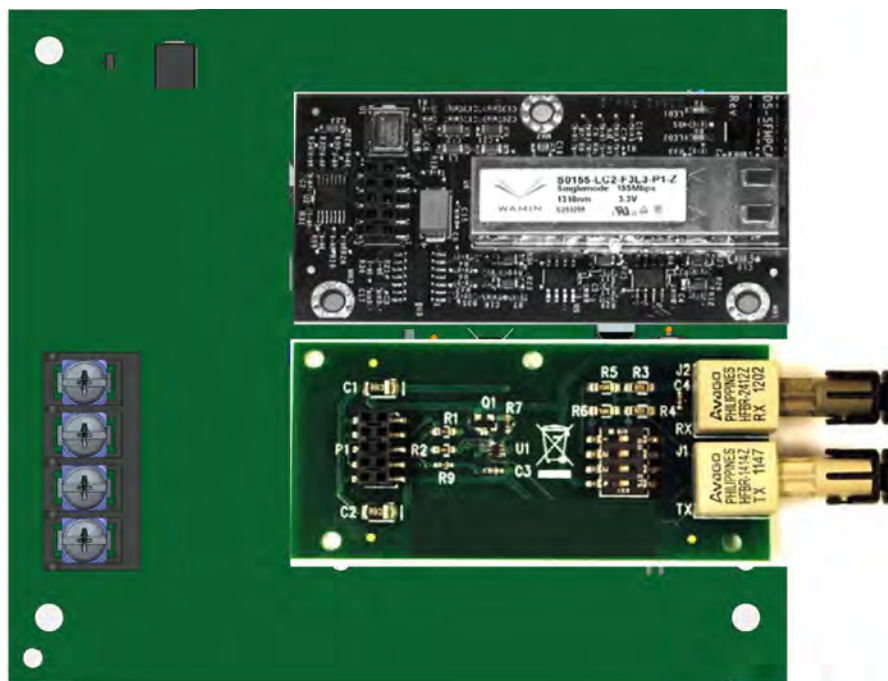

Figure 5.5 TR-NIC with Fiber Loop Modules
Each fiber loop module can Transmit (TX) and Receive (RX) fiber-optic cable connecting to the TR-NIC. Up to two fiber loop cards can be added to the TR-NIC, and both cards may be combined in the same configuration. See Figure 5.5.